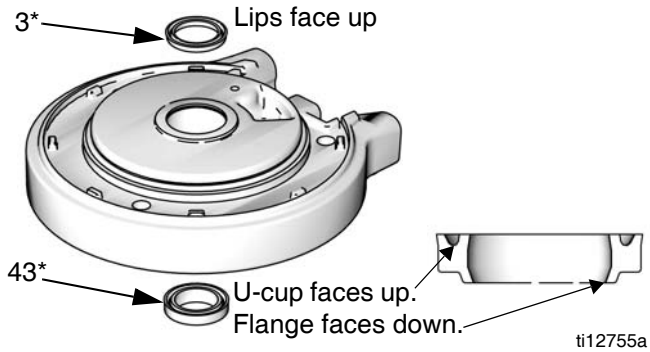

FIG. 12: Air motor u-cup installation
1. Lubricate and install the o-ring (9*) on the top cover (13).
2. **M07xxx, M12xxx, and M18xxx only:** Install the upper bumper (29) on the top cover (13).
3. Lubricate the inside of the cylinder (11). Lower the cylinder (11) onto the top cover (13).
4. Lubricate and install the o-ring (8*) around the piston (5).
5. Slide the piston assembly (5) down into the cylinder (11). Be sure the o-ring (9*) stays in place.
6. Install the shield (12) around the cylinder (11) and in the groove on the top cover (13).
- See FIG. 12. Lubricate and install new u-cup seal with flange (43*) in the bottom of the bearing in the bottom cover (1). The u-cup must face up and the flange must face down. Lubricate and install new u-cup seal (3*) in the top of the bearing. Lips must face up.
3 U-cup faces up. Flange (bottom seal only) faces down. See FIG. 12, page 15.